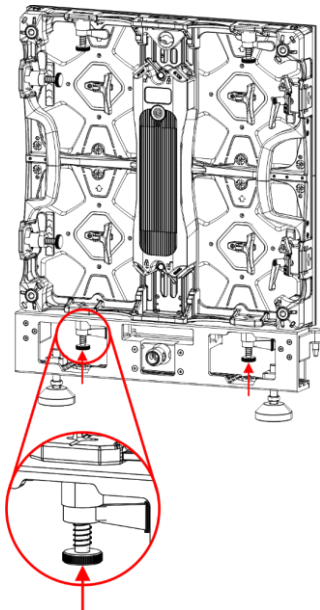

Fig. 29
03) Turn **lever (A)** of the left **locking mechanism (06)** counterclockwise.
04) Push the **spring-loaded fast-lock (B)** of the left **locking mechanism (06)** on the rigging bar upwards and turn it by 90°, as shown in Fig. 29 and 30.